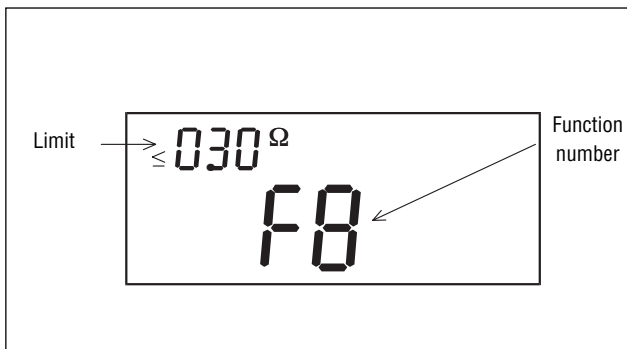

Fig.7.48
- Press key START/STOP at COMMANDER used or at appliance to start measurement. The function number for the first measurement to be carried out is briefly indicated (see example in Fig. 4.53). Then, the measurement is carried out. The following is displayed (Fig.7.48).